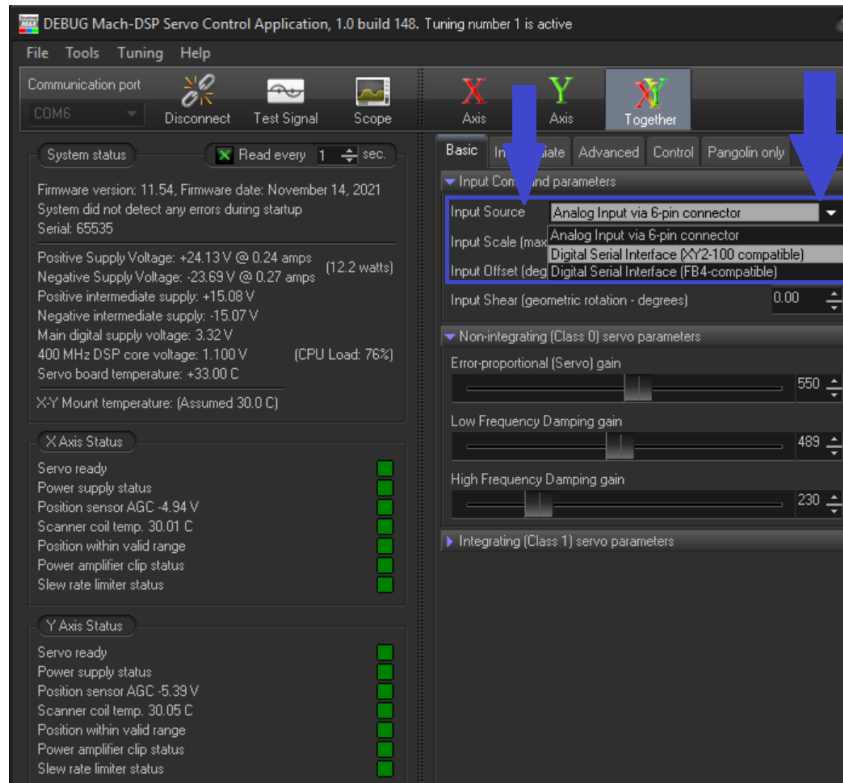

Figure 4: Input source
6. Launch the Mach-DSP Servo Control Application. Select the desire Input Sorce (XY2-100 or FB4) Figure 4.